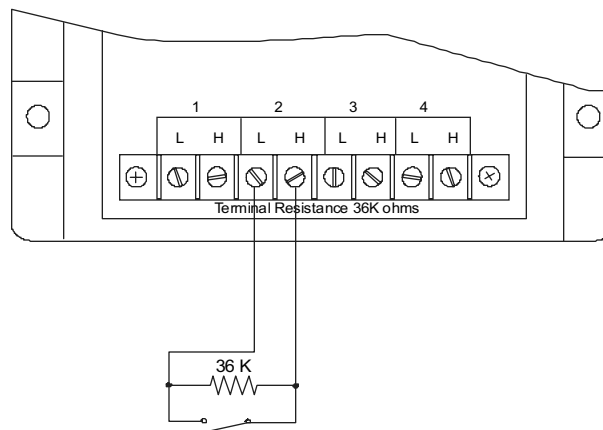

Figure 5-1: MSM Configured for Bench Check
1. Connect one SPST toggle switch and one 36K-ohm resistor in parallel across one set of terminals on the MSM as shown in Figure 5-1. Ensure that the switch is in the open position. (A wire which can jumper the L and H connectors on the MSM may be substituted for the switch.)
1. Exit the command mode by typing BYE (B) at the command prompt.
2. Using the toggle switch installed on the MSM as in Figure 5-1, close the contact. If a jumper wire is used, short the L and H contacts on the MSM. The terminal monitor should indicate an active relay point with a message similar to: